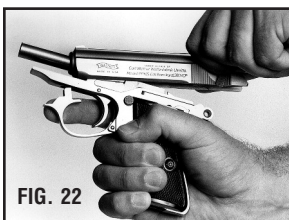

FIG. 22
- Put the slide over the forward end of the recoil spring and pull the slide back onto the barrel all the way until it stops (Figure 22). Then push the rear of the slide down until the grooves inside the slide line up with the rails on the frame. When properly aligned, ease the slide forward all the way. Then let go of the trigger guard so it goes up into the frame.